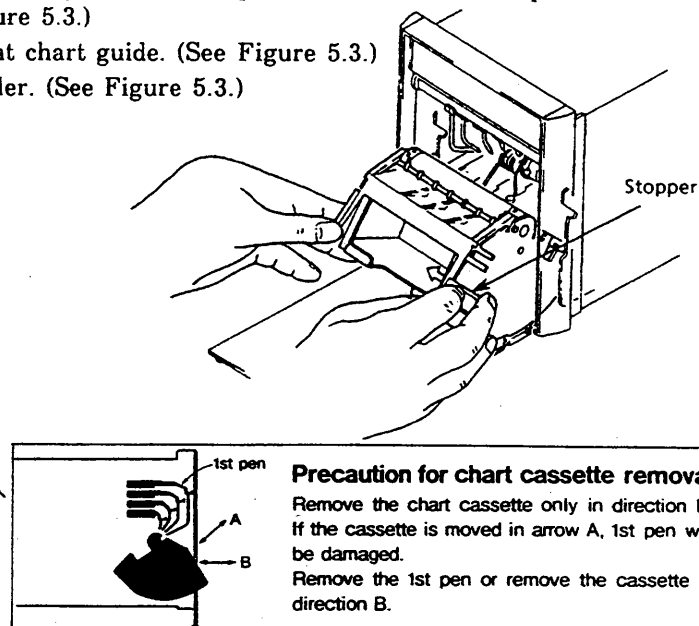

Figure 5.2 Remove the Compartment
- (2) Open the recorder front door and while gently pressing the chart paper compartment lock tab, remove the compartment by slightly raising and pulling it forward (see Figure 5.2). The POWER switch can remain "ON".